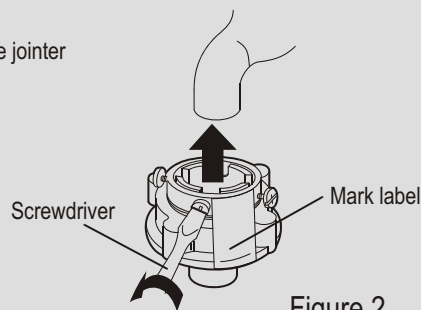

Figure 2
(Figure 2)
2. Loosen the screw till the water faucet can be accessed. Put the jointer of the water inlet hose on the faucet. See to Figure 2. (If the faucet is too large and the jointer can not be set on the water faucet, please loosen the four screws and take out the bushing in the jointer. See to the figure.)